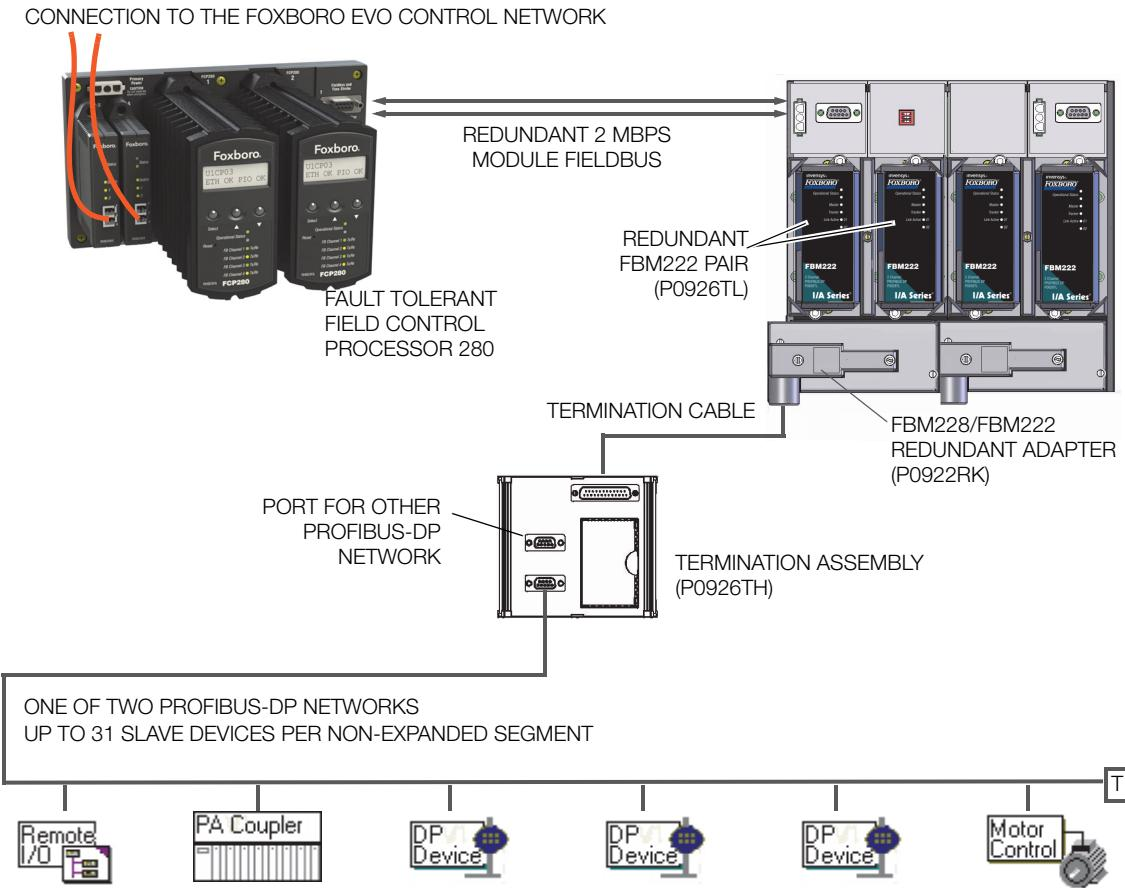
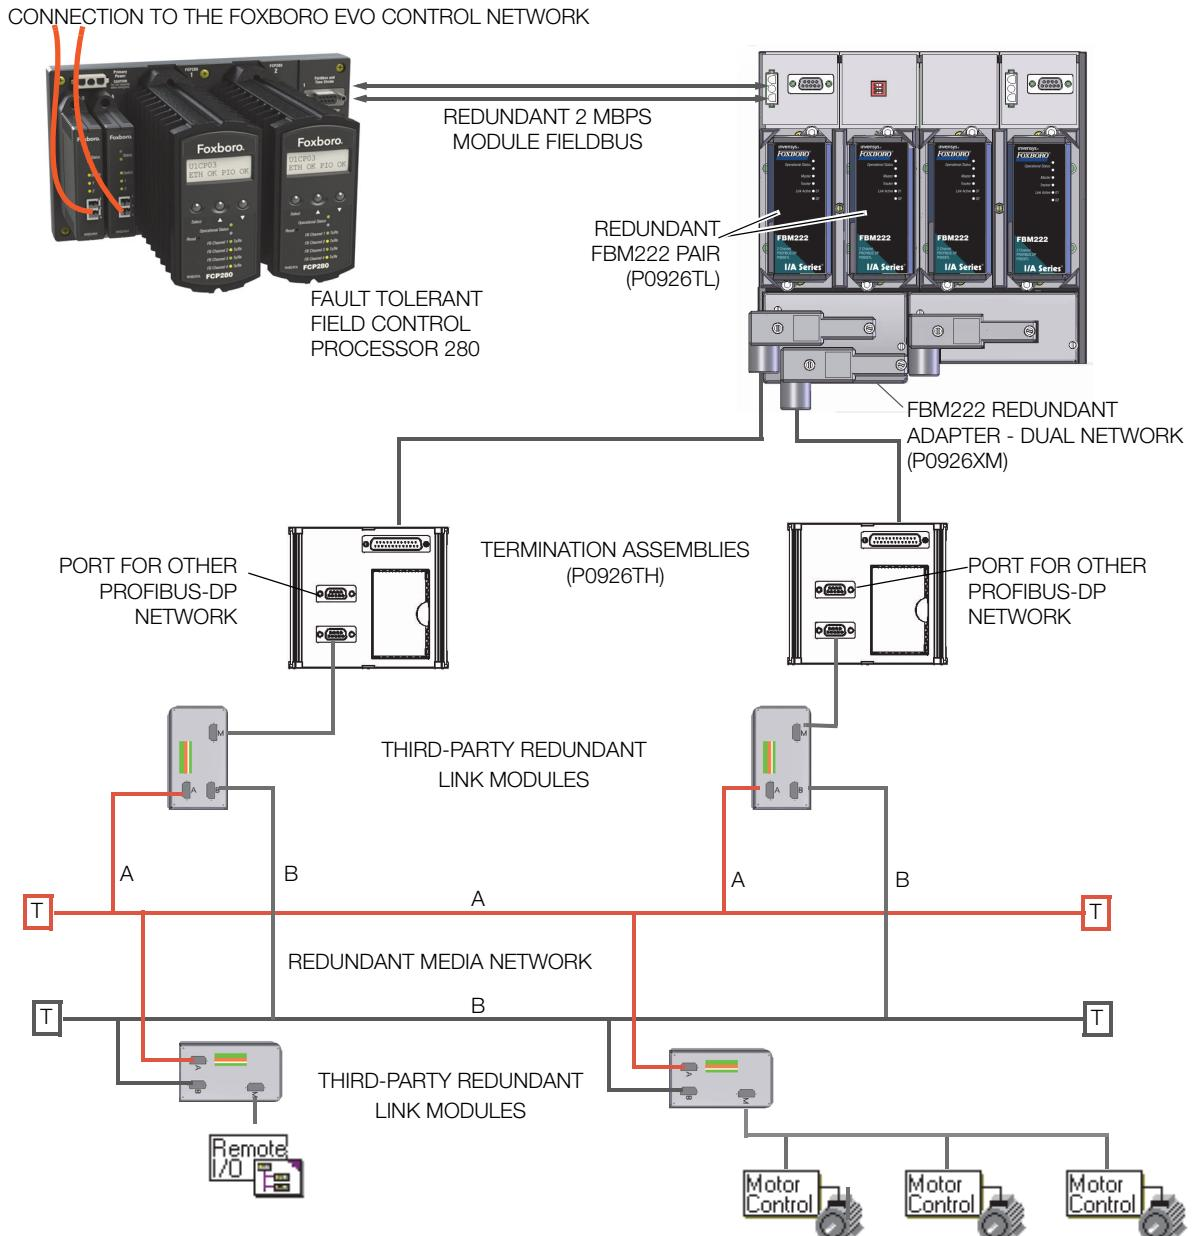

Figure 1. Redundant FBM222 with Single PROFIBUS-DP Network
Figure 2. Redundant FBM222s with Redundant Media PROFIBUS-DP Network
There are multiple ways to connect FBM222s installed as a redundant pair to a PROFIBUS-DP network. When the PROFIBUS segments are single networks as shown in Figure 1, an FBM228/FBM222 Redundant Adapter (P0922RK) connects a single termination cable to the redundant pair. The other end of the cable is plugged into a termination assembly (TA), which provides connections for the two network segments (Figure 1).
When the segments contain redundant media, two TAs are connected via termination cables and the FBM222 Redundant Adapter - Dual Network (P0926XM). The TAs in turn are connected to each network by third-party redundant link modules, such as the ABB™ Redundant Link Module (RLM01) (Figure 2). The Siemens™ Optical Link Module (OLM) can also be connected to these TAs in a configuration other than the one shown below.
When deployed for use with an FCP280 (as shown in Figure 1 and Figure 2), the module is installed in an adjacent baseplate. When deployed for use with an FCP270, the module is installed in the same baseplate or in an adjacent baseplate. For both FCPs, the FBM222 communicates with the control processor over a 2 Mbps HDLC module Fieldbus.
With the optionally redundant FBM222, a highly available system can be configured, as shown in Figure 2 and including:
In addition to the four-position baseplate shown in Figure 1 and Figure 2, the module can be mounted on any of standard FBM baseplates described in *Standard 200 Series Subsystem Overview* (PSS 31H-2S200). The baseplate is either DIN rail mounted or rack mounted, and includes signal connectors for the FBMs, redundant independent dc power connections, and I/O cable connections.